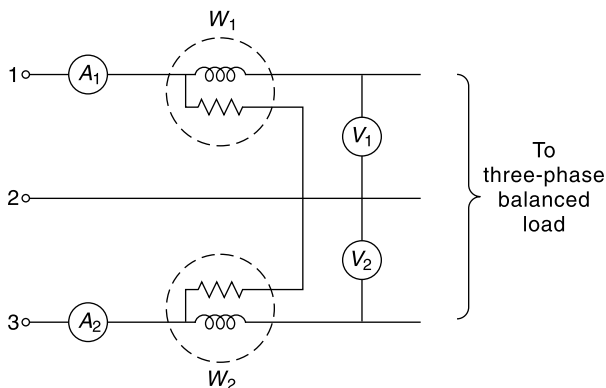

Fig. 7.23 Circuit of Ex. 7.40
7.40 In Fig. 7.23, ammeter A_1 reads 10 A, while A_2 also reads 10 A. Wattmeters W_1 and W_2 read 200 W and 800 W respectively. If $V_1 = V_2 = 400$ V, find the power factor. Also find the KVAR rating of a delta connected capacitor bank to enhance the power factor to 0.85 (lag).